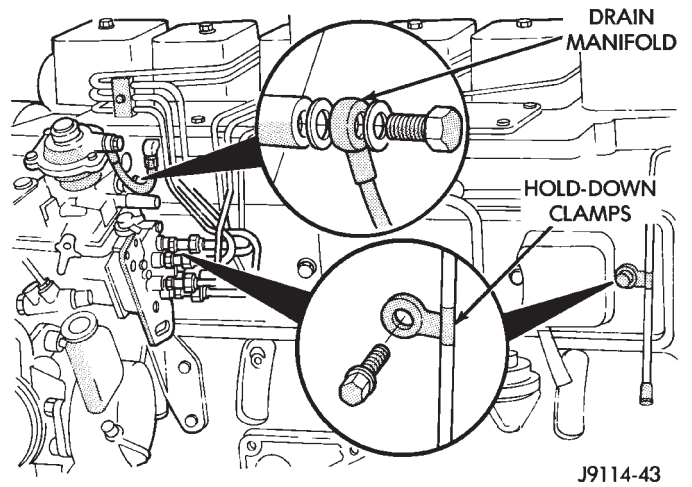

Fig. 10 Fuel Drain Manifold
- (1) Remove the fuel drain manifold holddown clamp mounting screws (Fig. 10).
- (2) Remove injection pump vent capscrew (Fig. 10).